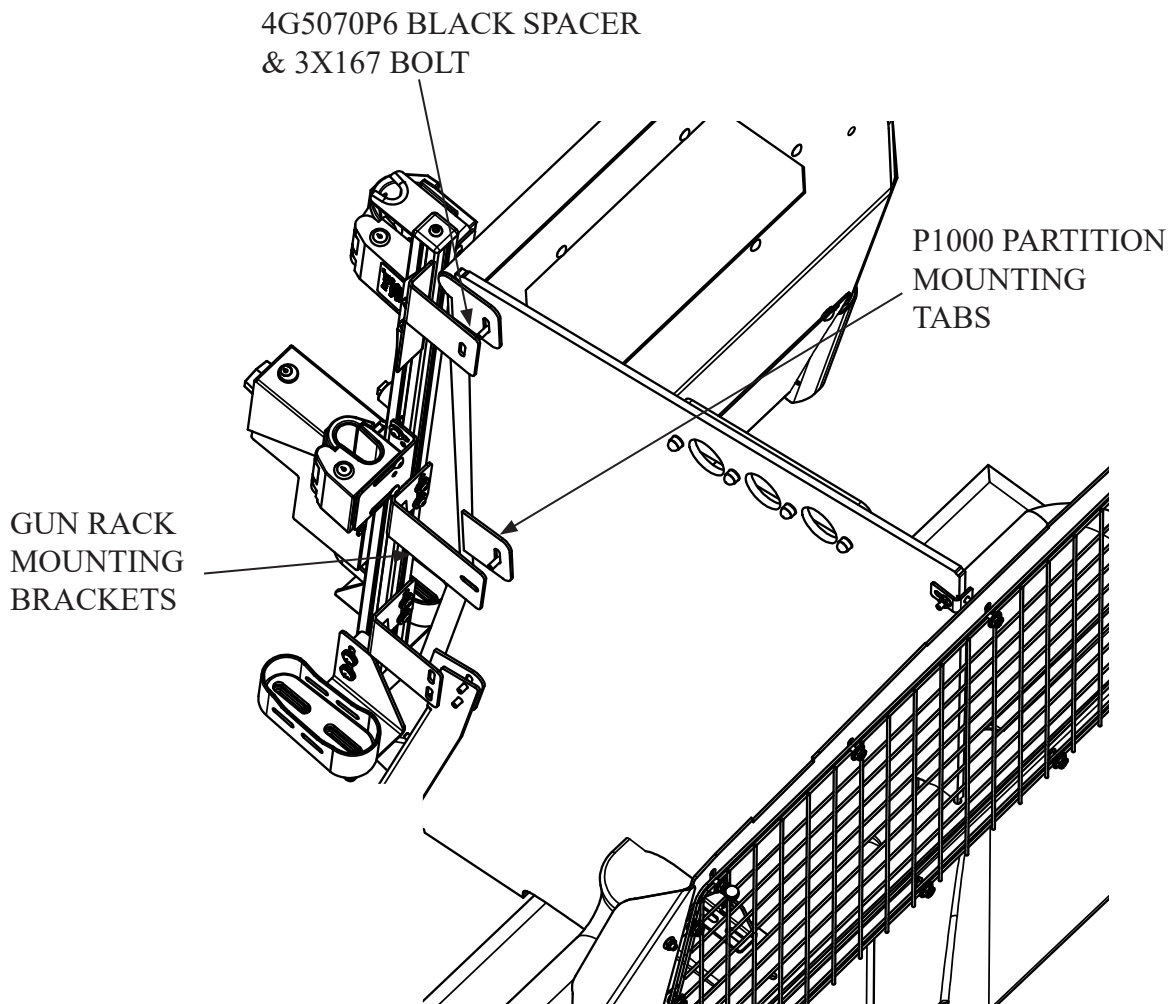

Figure 2.
- D. Remove the whiz nuts holding the poly center divider to the P1000 partition's mounting tabs one at a time starting from the top and working down. Then carefully insert the corresponding gun rack brackets over the bolts sticking through the partition mounting tabs. The top bracket 3GVM202-07 will have a 4G5070P6 spacer between it and the partition tab, along with a longer 3X167 bolt. Resecure them with the removed whiz nuts loosely before moving onto the next bracket. (See Fig. 2 on the next page)